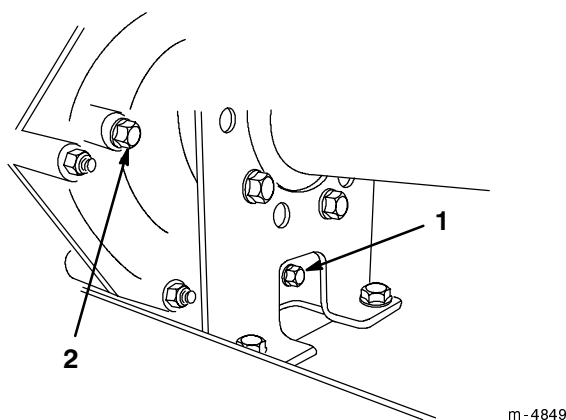
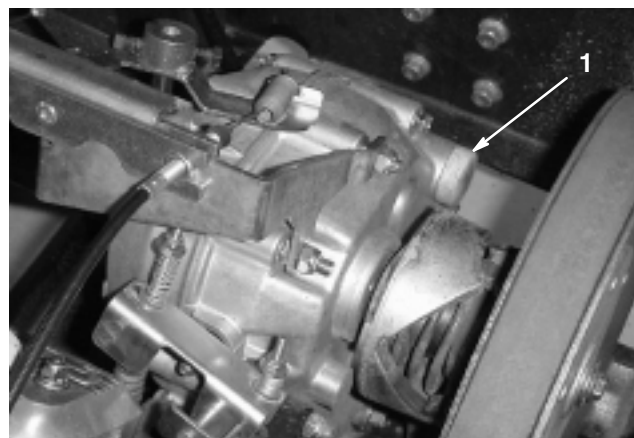

Figure 39
Figure 40
2. Remove drain plug from right side of reservoir (Fig. 39) and let fluid flow into drain pan. Reinstall and tighten plug when fluid stops draining.
3. Fill the reservoir (Fig. 40) with approximately 1-1/2 qt. (1.4 liters) of 10W30 motor oil or until the oil level is at the bottom of the level indicator hole (Fig. 39).